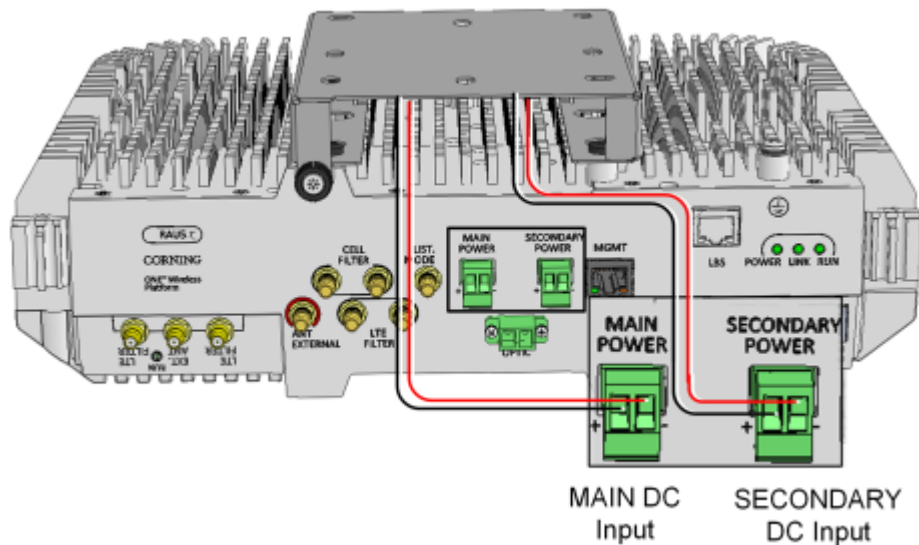

Figure 4-30. RAU5x MAIN and SECONDARY DC Input Connections
1. Connect DC wire pair to the RAU5x Secondary Power DC input connector (see Figure 4-30):